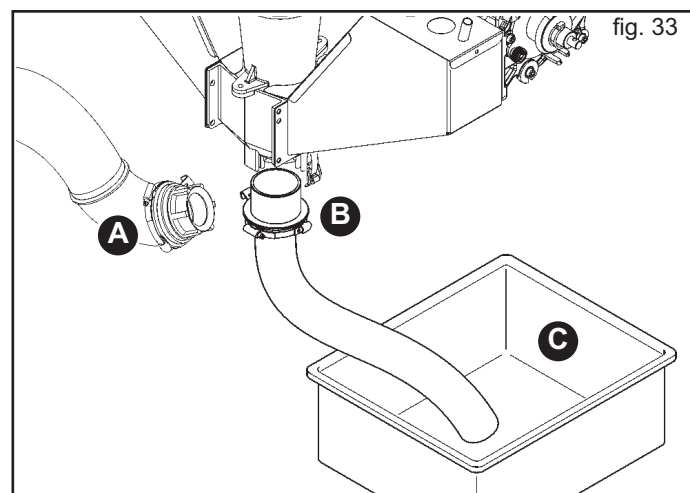

fig. 33
- 2) Remove the bend under the injecting tube (A, Fig. 33), by loosening the quick closing device.
- 3) Then attach the collecting tube supplied with the machine (B, Fig. 33) in the same position and place a collecting container at the other end of the tube (C, Fig. 33).